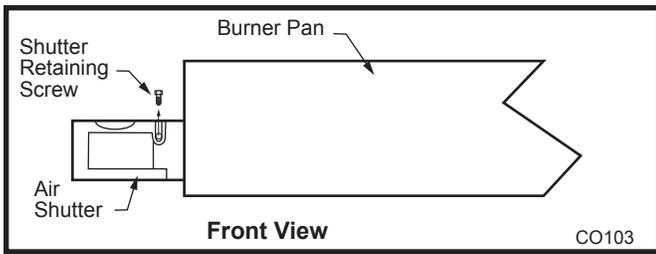

Fig. 71 Remove air shutter from burner pan.
- Remove air shutters from burner pan by removing shutter retaining screw then air shutter. (Fig. 71)
- 4. Remove air shutters from burner pan by removing shutter retaining screw then air shutter. (Fig. 71)